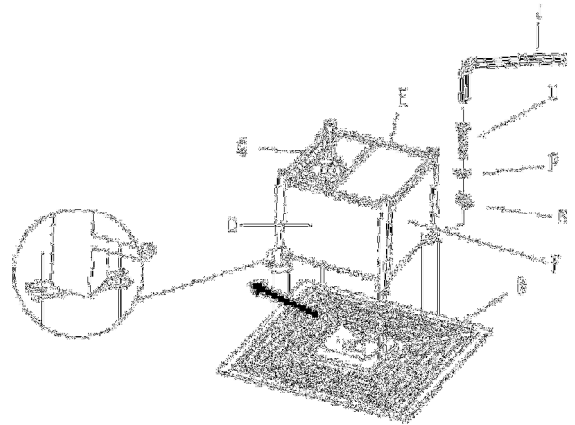

Figure 4
4. Turn over the assembled frame, attach to the top (B) with 8 bolts  $\frac{1}{4}$  in x 32 mm (U), 8 flat washers (N) and 8 spring washers (P) by using the Allen wrench (J), and keep the ignition panel directly facing the door (G), (see Figure 4).